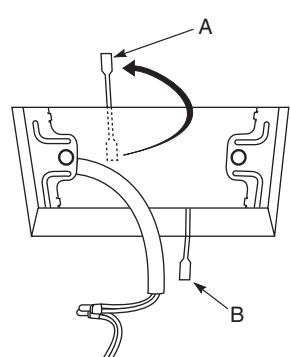

Fig. 1-104
- Fit securely into the ceiling material at sections (A) and (B) as shown in Fig. 1-104.
- Connect the wire (2-wire core) from the signal receiving unit with the wire from the indoor unit. (See section on how to wire the receiving unit.) as shown in Fig. 1-104.